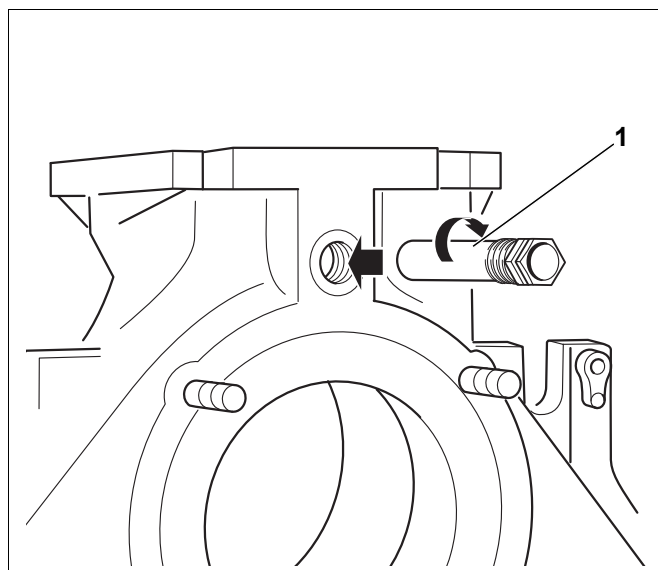

Fig. 25 Install the sensor well
- Seal the sensor well R $\frac{3}{4}$ " from the rear of the boiler (length: 110 mm) into the R $\frac{3}{4}$ " thread of the flow connector (Fig. 25, [1]).